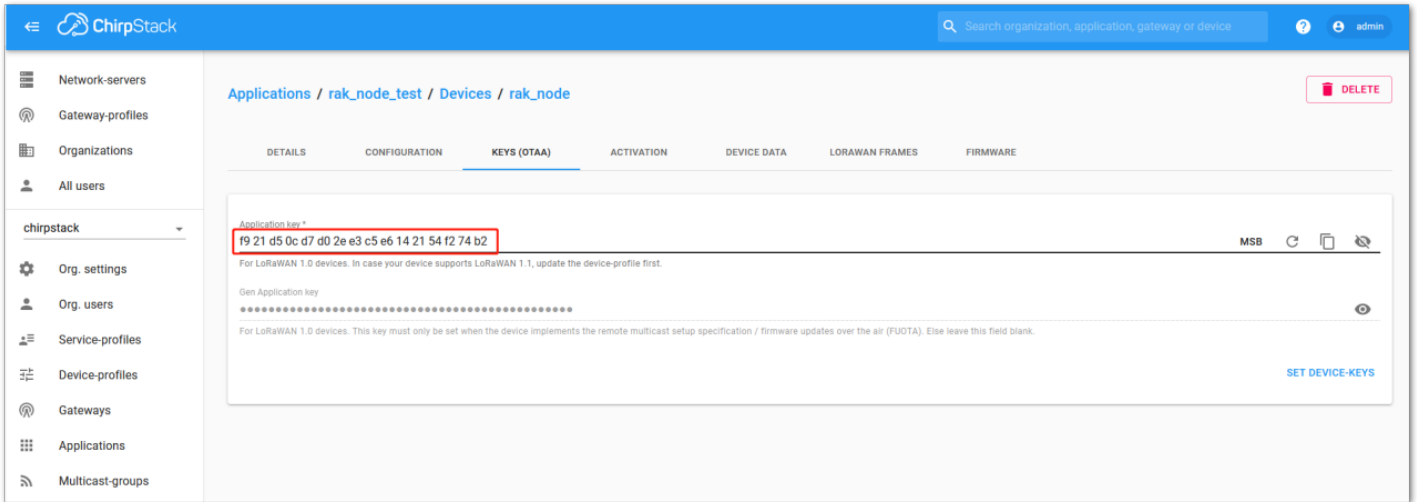

Figure 208: Application Key Associated with the New Device
4. To end the process, it is a good practice to review that the Application Key is properly associated with this device. The Application Key can be verified in the **KEYS(OTAA)** tab, as shown in **Figure 208**.